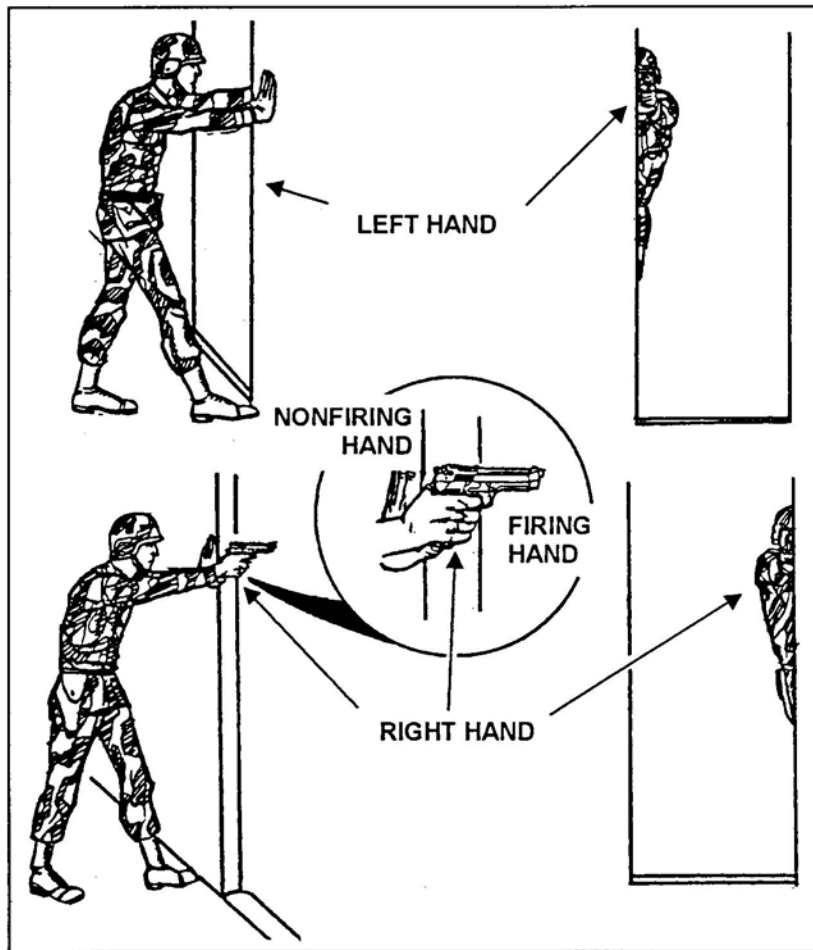

Figure 7. Standing-with-support position.
- b. Standing-with-support (Figure 7). To assume this position--
- (1) Use available cover for support. For example, stand behind a tree or wall.
- (2) Stand behind a barricade, with your firing side in line with the edge of the barricade.
- (3) Place the palm of your nonfiring hand at eye level on the edge of the barricade, and extend your thumb past the edge of the barricade.
- (4) Lock the elbow of your firing arm. Rest your forearm on the extended thumb of your nonfiring hand.
- (5) Move the foot on your nonfiring side forward until your toe touches the bottom of the barricade.